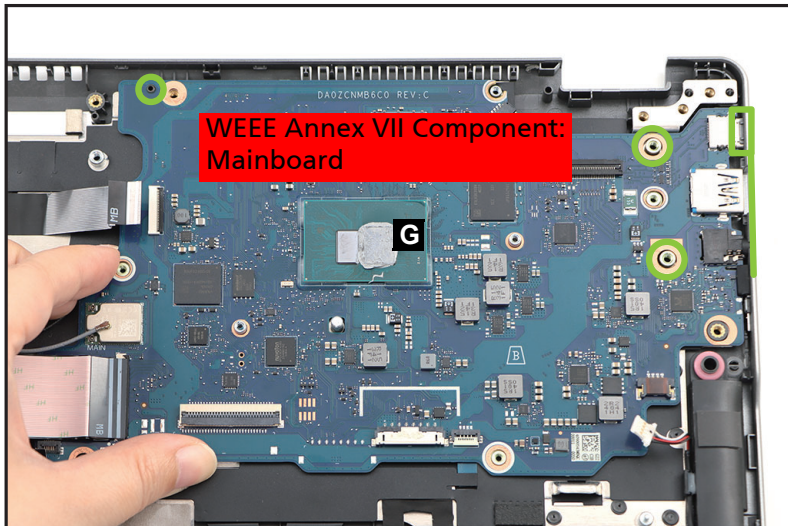

Figure 1-27. Mainboard Removal
8. Release the mainboard (G) from the I/O ports slots (marked with green lines and rectangle) and guides (marked with green circles) on the top assembly (Figure 1-27). Then remove the mainboard.